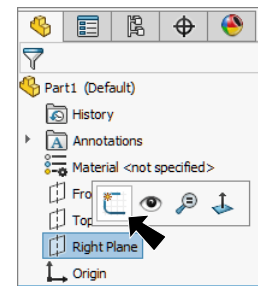

Fig. 2
Step 1. Click **Right Plane**  in the Feature Manager and click **Sketch**  on the context toolbar, **Fig. 2**.
Step 2. Click **Line**  (L) on the Sketch toolbar.